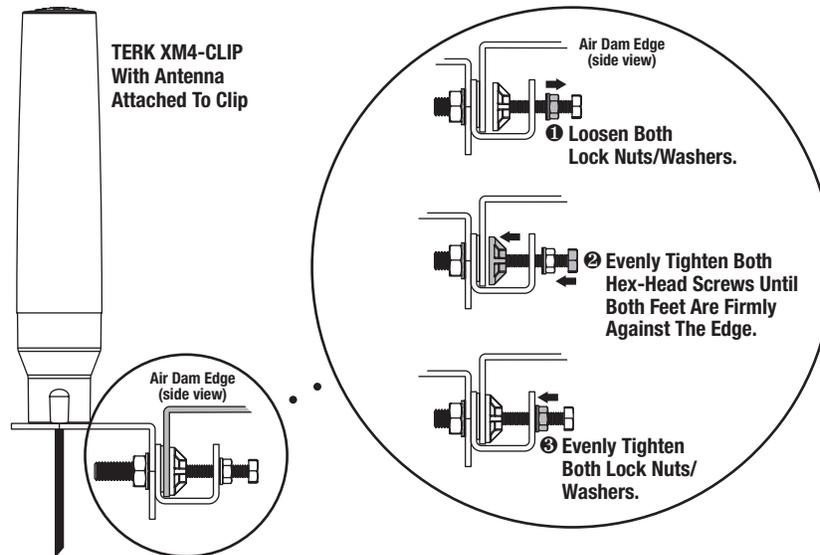

Figure 5. Installing the TERK XM4-CLIP antenna with clip onto an air dam.
2. At the chosen site, attach and secure the pre-assembled clip (with pre-assembled antenna) to the edge of an air dam or flap, as shown in Figure 5 (on the next page).